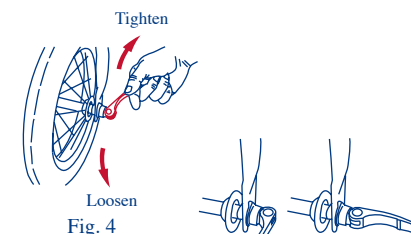

Fig. 4
- With the wheel in position, tighten the finger nut on the axle until it is very close to contacting the fork and rotate the lever to tighten it as shown in Fig. 4.